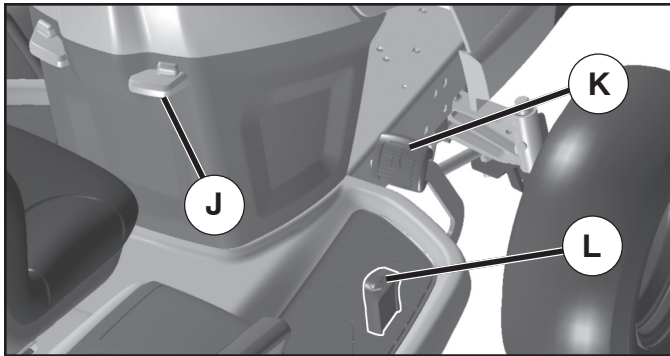

Fig. 17
TO MOVE FORWARD AND BACKWARD (See Fig. 17)
TO USE CRUISE CONTROL (J) (See Fig. 17)